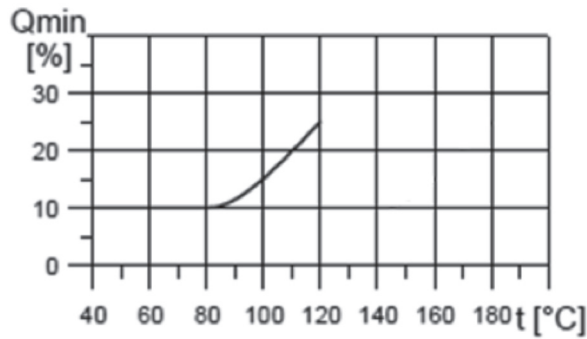

Figure 8: Minimum flow
12. Install the pipes so that no air bubbles are formed, particularly at the suction end of the pump (Figure 8).